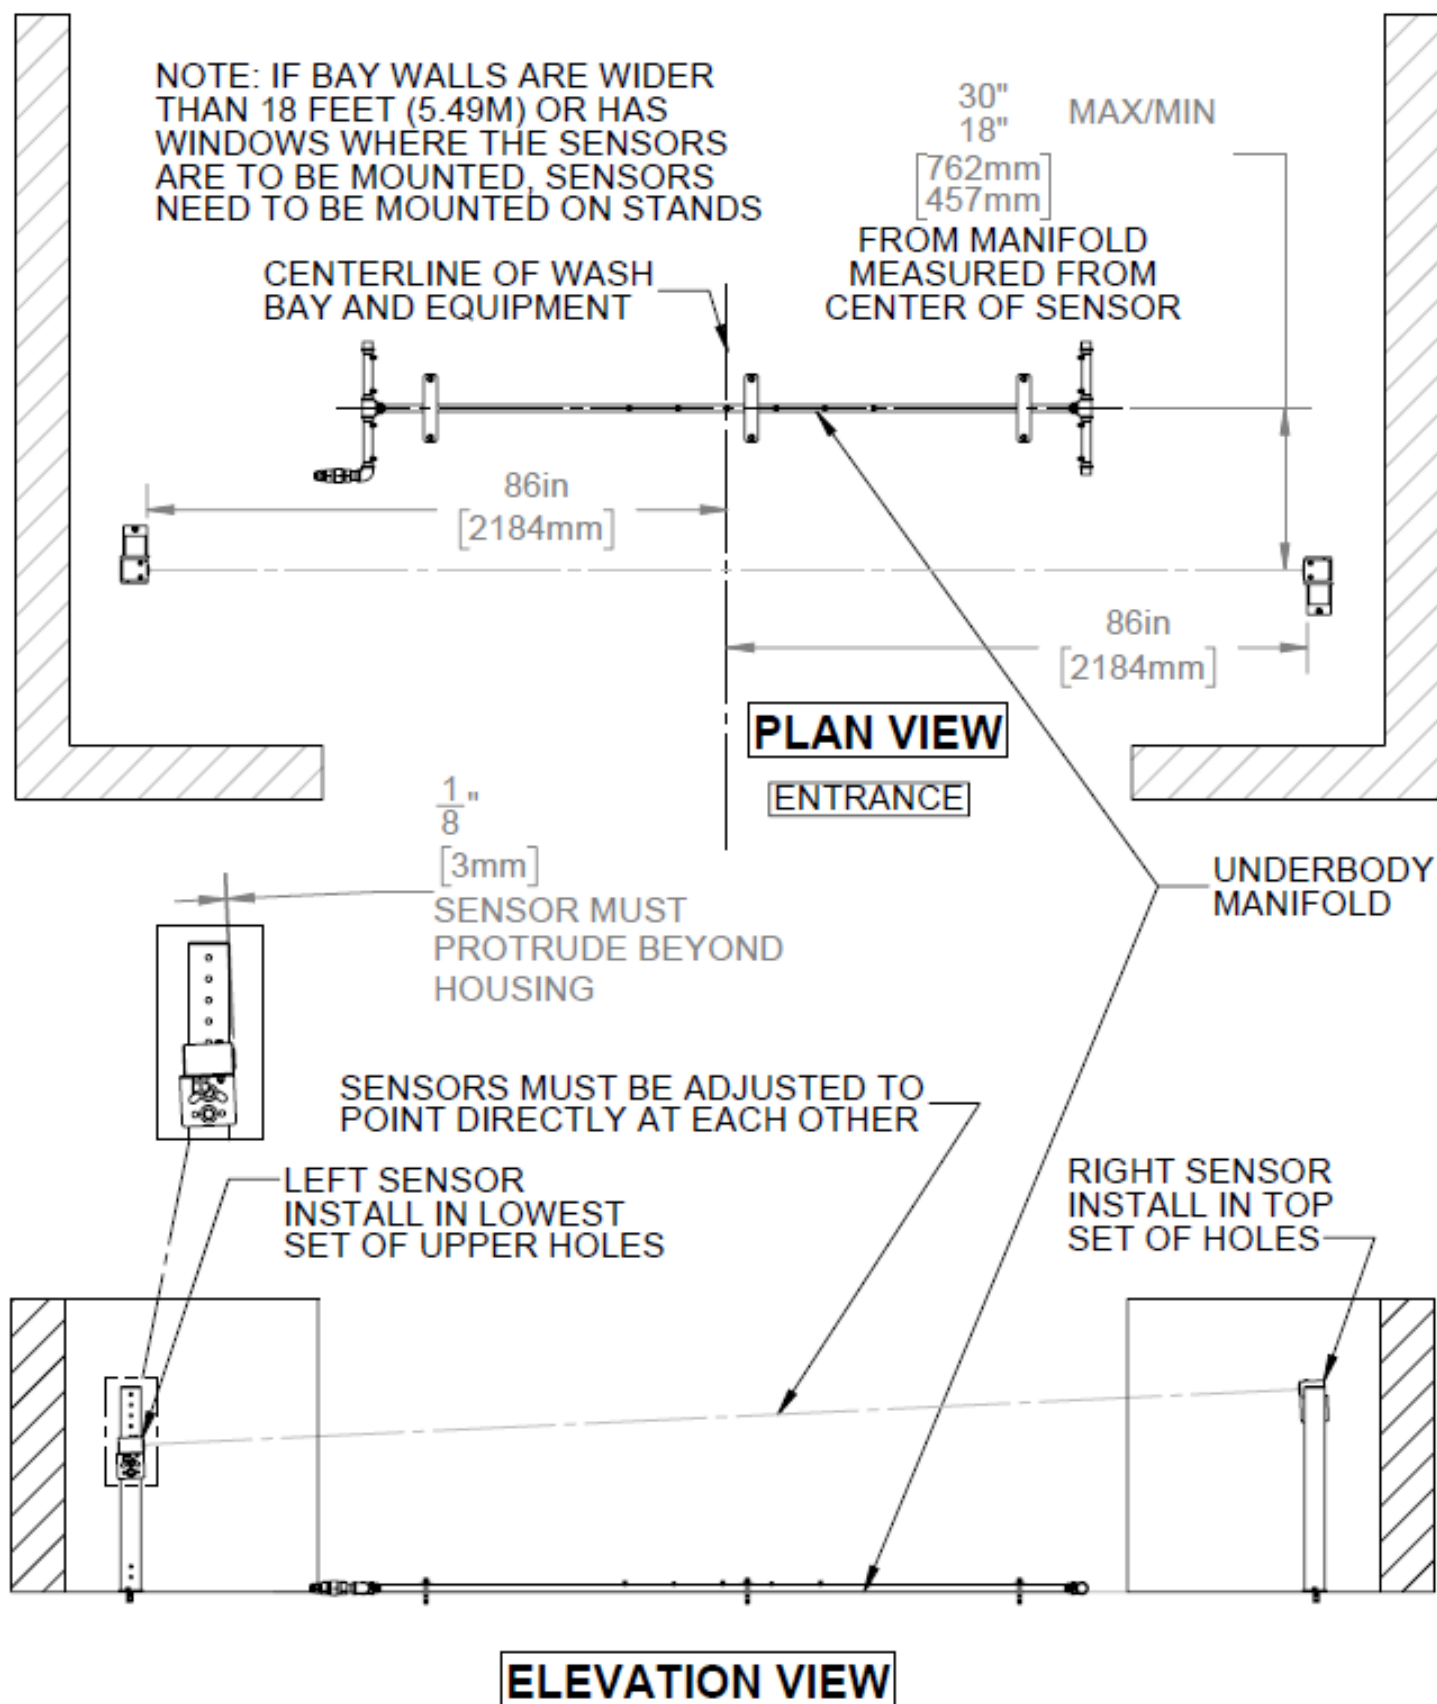

Figure 133 - Stand Mounted Ultrasonic Underbody Activation Sensor Location
- Figure 133 shows the preferred mounting positions for the stand mounted ultrasonic sensor assemblies.
- The stand mounted assemblies are provided with (2) 3/8" x 1 7/8" long sleeve anchors. If these anchors are not appropriate for the floor material, the site is responsible for providing appropriate anchors.
- Mount the sensor assemblies to the floor while taking note of the direction of the strain relief for the sensor cable. Be sure this is pointed downward. Ensure the sensor face protrudes from the cover as shown in Figure 133.
- Adjust the position of one of the sensor assemblies (left-hand side as shown in Figure 133) so that it is in the lowest set of upper holes.